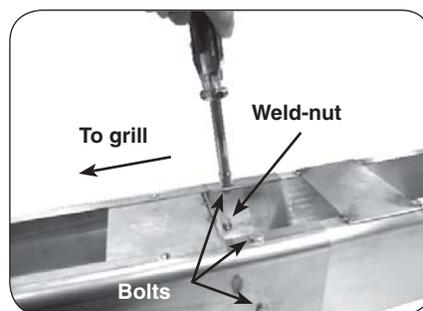

Fig. 15-2 Fasten extension to post
2. From outside the joined post and extension, insert one of the 1/4 X 20"-5/8 bolts (supplied) into each of the five (5) bolt holes and tighten each using a 7/16" socket driver or wrench (see Fig. 15-2).